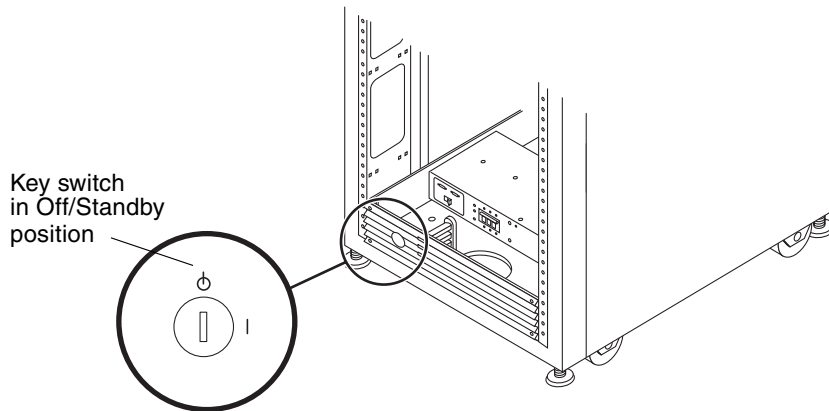

FIGURE B-9 Location of the Key Switch on the Bottom Front Panel
2. **Verify that the key switches located at the bottom front of the base cabinet and expansion cabinets (if applicable) are in the Standby position (FIGURE B-9).**